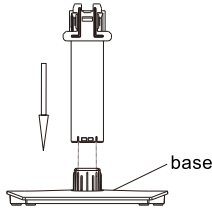

Figure 1
1. Put the base directly against yourself, assembly the support on the base in the direction of the arrow (as shown in the dotted line, the front slot of the support is aligned with the two ribs of the base), As figure 1.